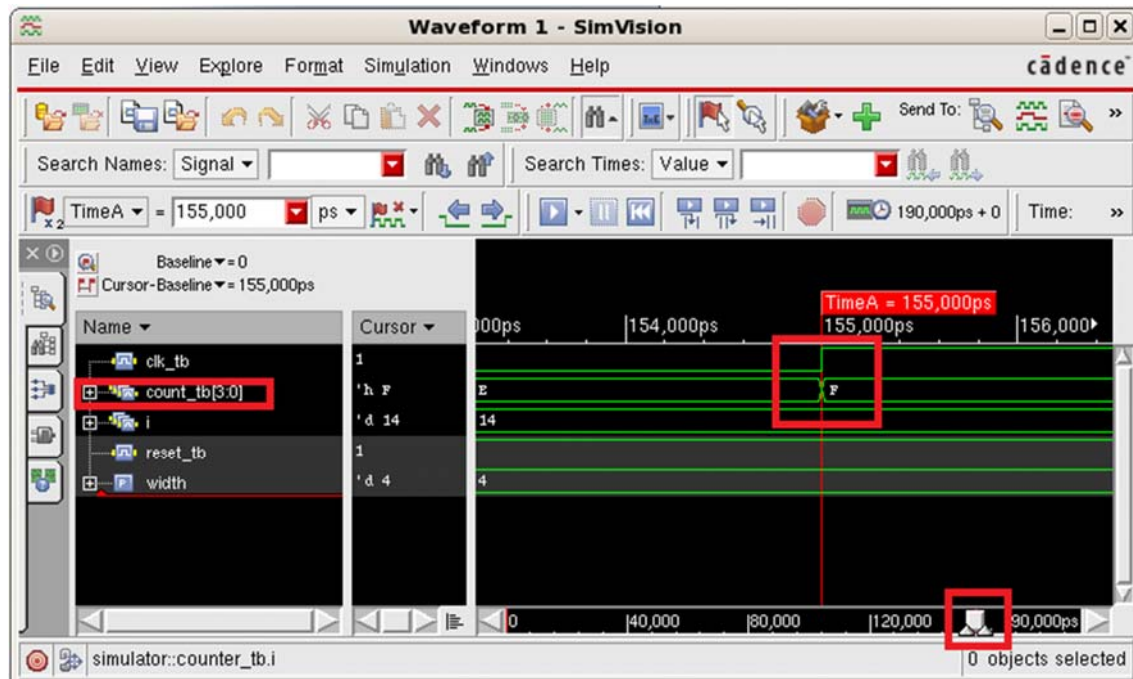

Figure Lab7-8 SimVision/Waveform Window
9. Select **count_tb[3:0]** (the output of counter as shown in Figure Lab7-8). **Simulation**→**Run**. Then **View**→**Zoom**→**Full X**. Use the **Sliding Bar** and **View**→**Zoom**→**In X (or Alt-i)** to zoom in to **count_tb[3:0]=F** as shown. Click on the waveform screen to bring TimerA to clock edge as shown. There is no delay between the positive-edge of **clk_tb** and output of counter since the counter is modeled by verilog behavioral code.